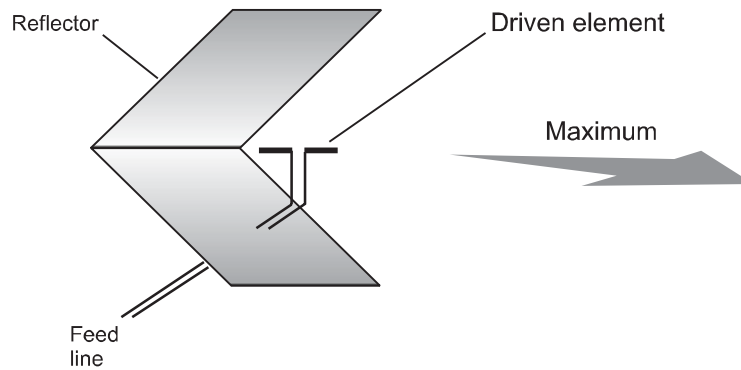

Fig. 12-13. A corner-reflector antenna, used at ultra-high and microwave frequencies.
A *corner reflector*, employed with a half-wave driven element, is illustrated in Fig. 12-13. This provides modest gain over a half-wave dipole. The reflector is wire mesh, screen, or sheet metal. Corner reflectors are used for television (TV) reception and satellite communications. Several half-wave dipoles can be fed in phase and placed along a common axis with a single, elongated reflector, forming a *collinear corner-reflector array*.